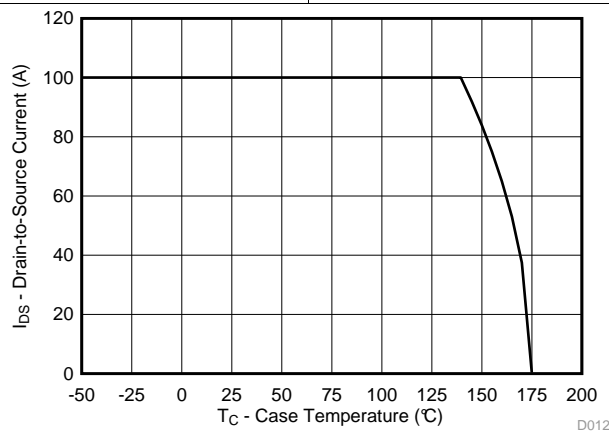

Figure 12. Maximum Drain Current vs Temperature
• Changed <a href="#">Figure 12</a> to extend temperature to 175°C. ....	6